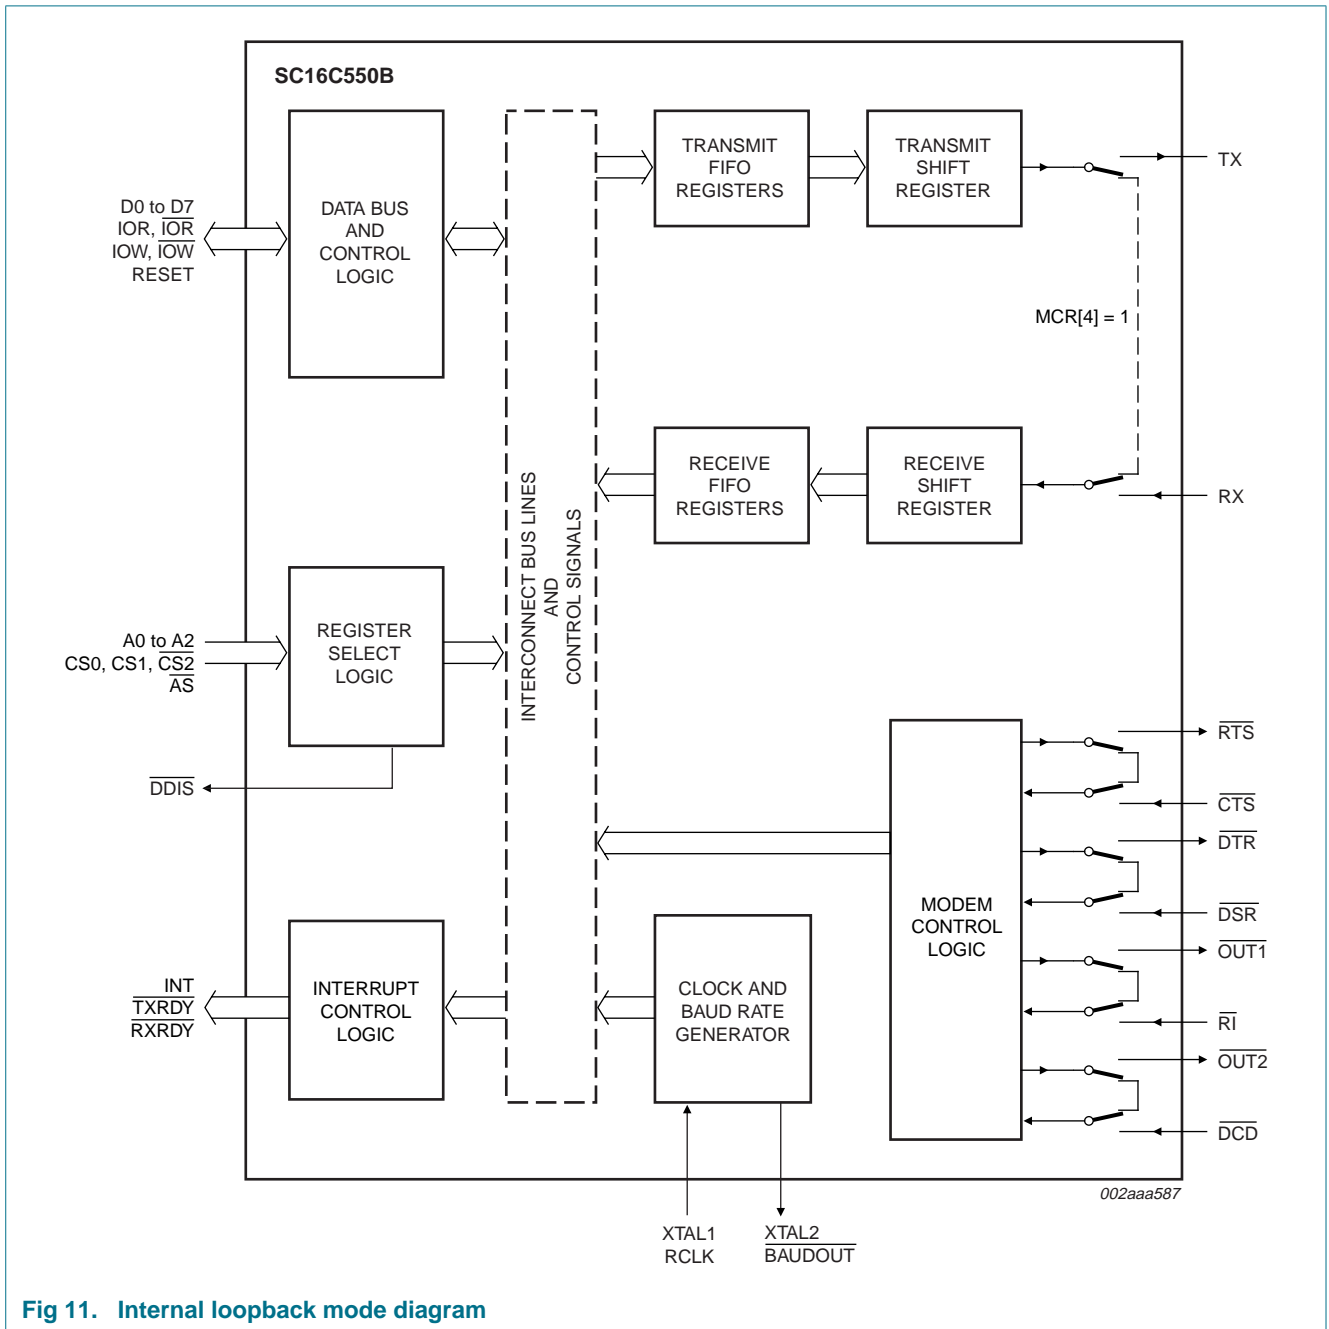

Fig 11. Internal loopback mode diagram
The internal loopback capability allows on-board diagnostics. In the loopback mode, the normal modem interface pins are disconnected and reconfigured for loopback internally. MCR[3:0] register bits are used for controlling loopback diagnostic testing. In the loopback mode, $\overline{\text{OUT1}}$ (bit 2) and $\overline{\text{OUT2}}$ (bit 3) in the MCR register control the modem $\overline{\text{RI}}$ and $\overline{\text{DCD}}$ inputs, respectively. MCR signals $\overline{\text{DTR}}$ and $\overline{\text{RTS}}$ (bits 0:1) are used to control the modem $\overline{\text{CTS}}$ and $\overline{\text{DSR}}$ inputs, respectively. The transmitter output (TX) and the receiver input (RX) are disconnected from their associated interface pins, and instead are connected together internally (see Figure 11). The inputs $\overline{\text{CTS}}$, $\overline{\text{DSR}}$, $\overline{\text{DCD}}$, and $\overline{\text{RI}}$ are disconnected from their normal modem control input pins, and instead are connected internally to $\overline{\text{DTR}}$, $\overline{\text{RTS}}$, $\overline{\text{OUT1}}$ and $\overline{\text{OUT2}}$. Loopback test data is entered into the transmit holding register via the user data bus interface, D0 to D7. The transmit UART serializes the data and passes the serial data to the receive UART via the internal loopback connection. The receive UART converts the serial data back into parallel data that is then made available at the user data interface D0 to D7. The user optionally compares the received data to the initial transmitted data for verifying error-free operation of the UART TX/RX circuits.